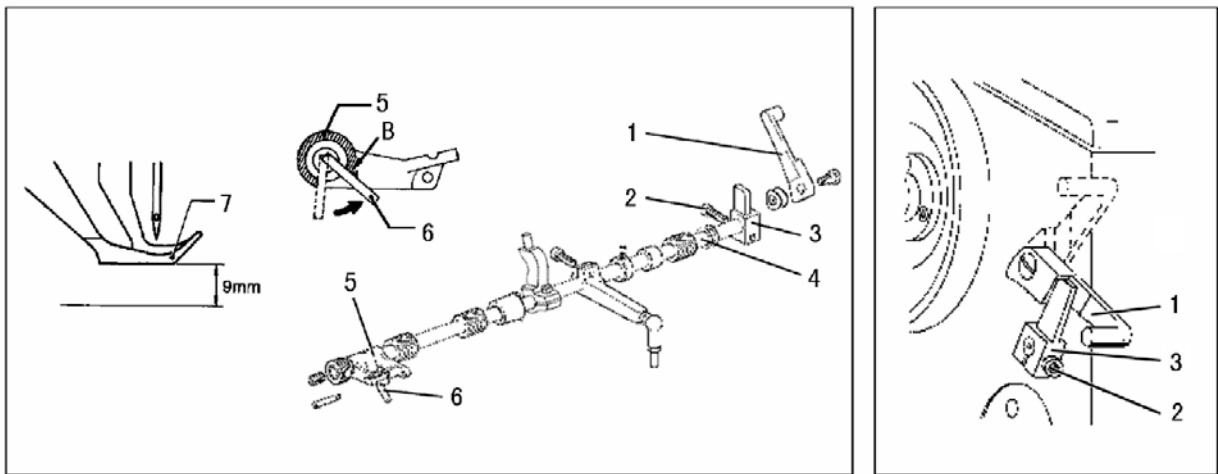

Fig.32
23) Adjusting the presser foot height(Fig.32)